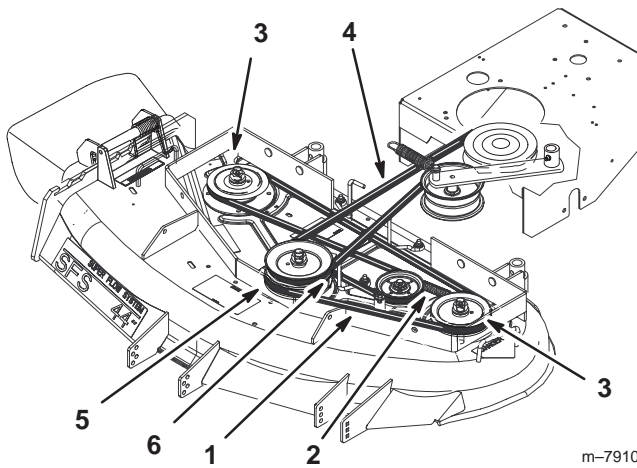

Figure 63
5. Disconnect the idler arm spring to relieve tension on the idler arm and idler pulley, then remove the worn deck belt (Fig. 63).
6. Install the new deck belt around the two outside spindle pulleys, the idler pulley, and in the lower groove of the center spindle pulley (Fig. 63).
7. Connect the idler arm spring (Fig. 63).
9. Adjust deck belt guide an 1/8 inch (3 mm) from belt (Fig. 63).